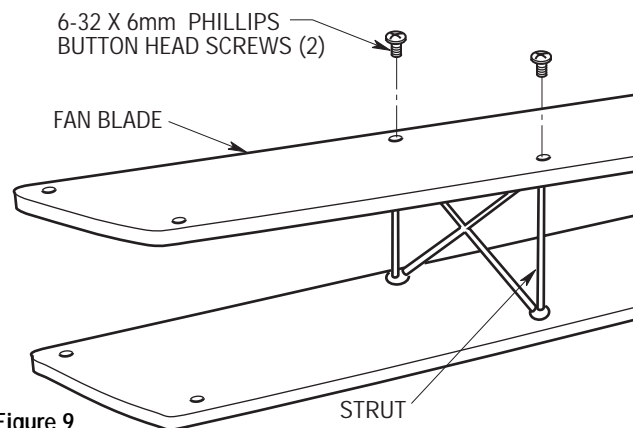

Figure 9
13. Slightly separate the upper and lower fan blades and carefully seat the strut into the center holes of the fan blades (Figure 9). Secure the strut by installing two 6-32 x 6mm Phillips button head screws (supplied). Be careful not to scratch the blades.